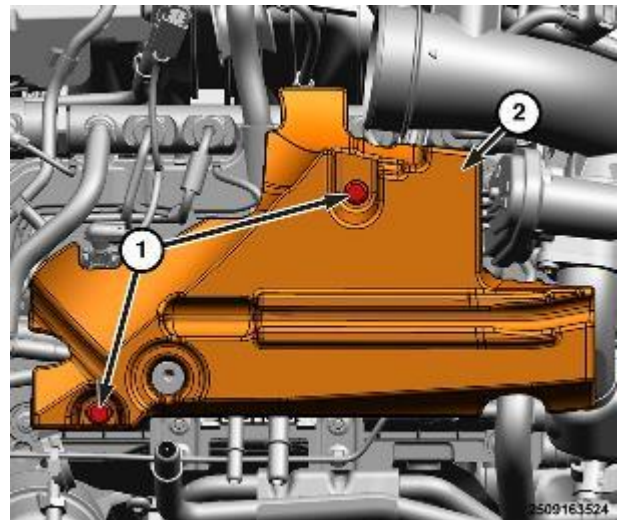

Figure 108 – Fuel Rail Cover
- 28. Remove the left fuel rail cover bolts (1) and the left fuel rail cover (2) (Figure 108).